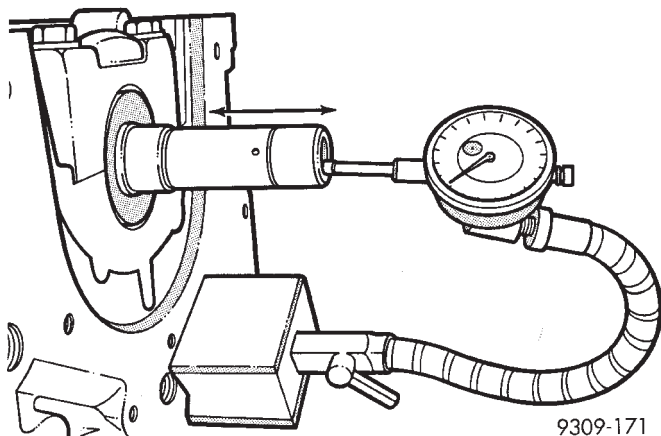

Fig. 22 Checking Crankshaft End Play
- (1) Mount a dial indicator to front of engine, locating probe on nose of crankshaft (Fig. 22).
- (2) Move crankshaft all the way to the rear of its travel.
- (3) Zero the dial indicator.
- (4) Move crankshaft all the way to the front and read the dial indicator. Refer to Crankshaft End Play Table for specification.